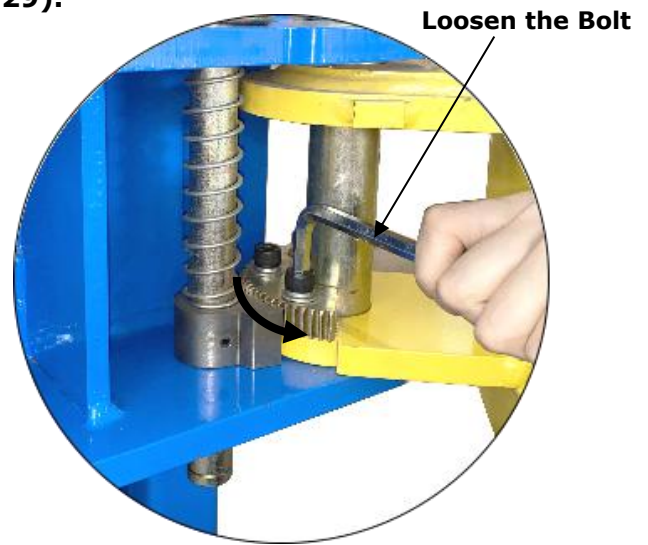

Fig. 29
2. Lowering the carriages down to the lowest position, then use the 8# socket head wrench to loosen the socket bolt (**See Fig. 29**).